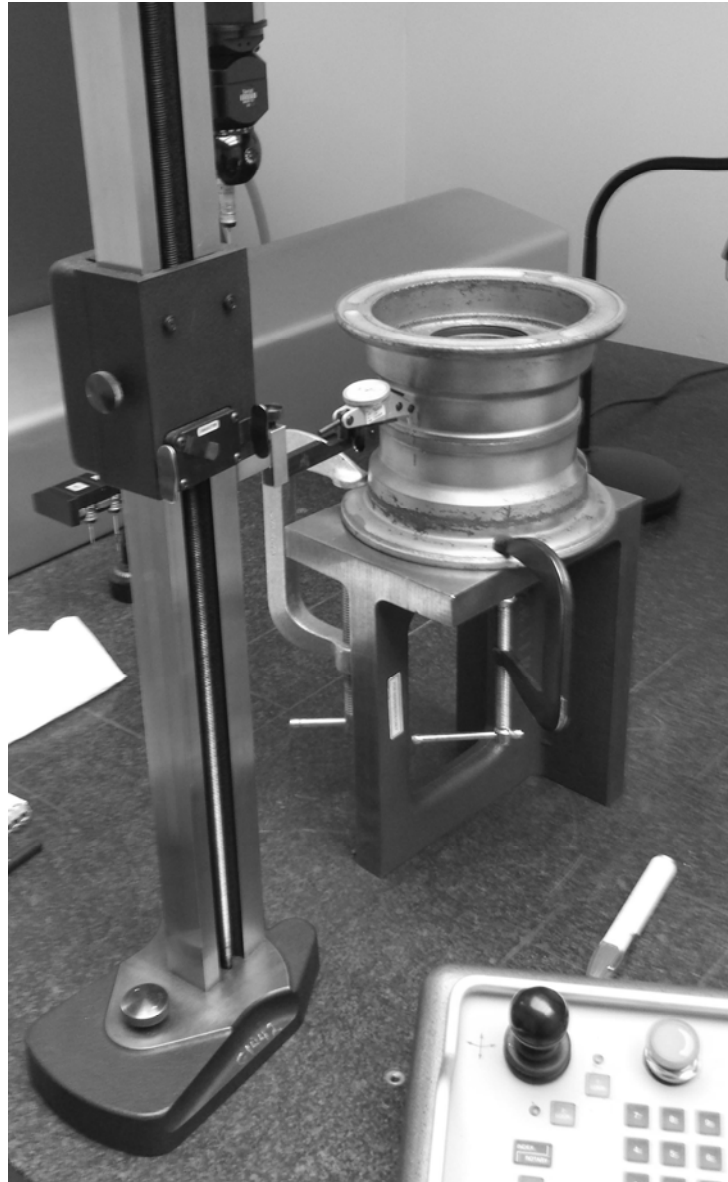

Figure 6 Setup for dial indicator inspection
- (1) Refer to Figure 6. Bring both wheel halves together so that one is stacked on top of the other (outboard or inboard). Clamp the bottom wheel half to a flat surface.